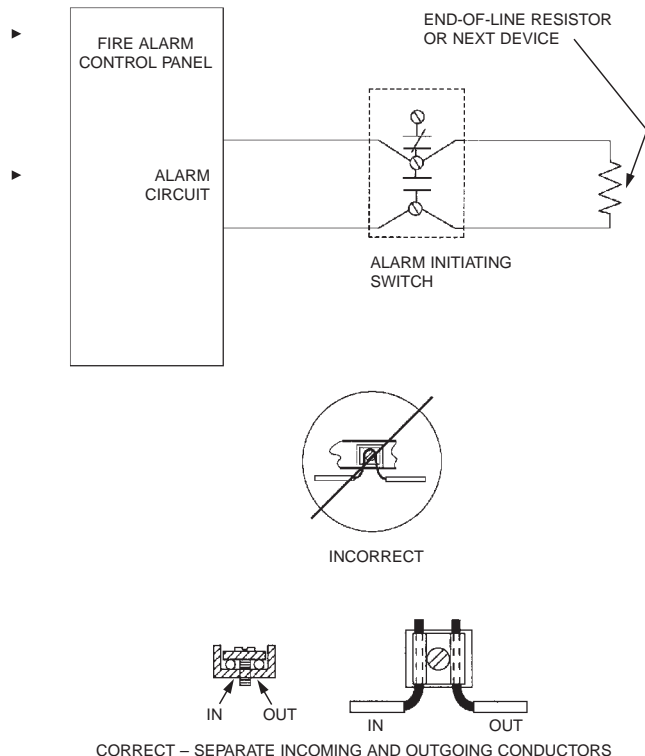

Figure 4-24. Wiring Diagram for Alarm Initiating Switch.
▶ to close a supervised alarm circuit to the building main fire alarm panel when the control head actuates. This will signal the fire alarm panel that there was a system actuation in the hazard area. This switch can be field installed in the control head. Refer to Instruction Sheet, Part No. 550081, included with the switch shipping assembly, for detailed mounting instructions. Wiring connections are shown in **Figure 4-24**. The switch is rated at 50mA, 28VDC.